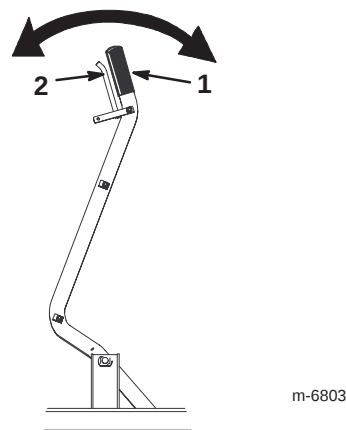

Figure 20
You can set the angle of the blade in 5 positions using the control handle on the right-hand side of the frame (Fig. 20).
1. Squeeze the release lever toward the handle (Fig. 20).